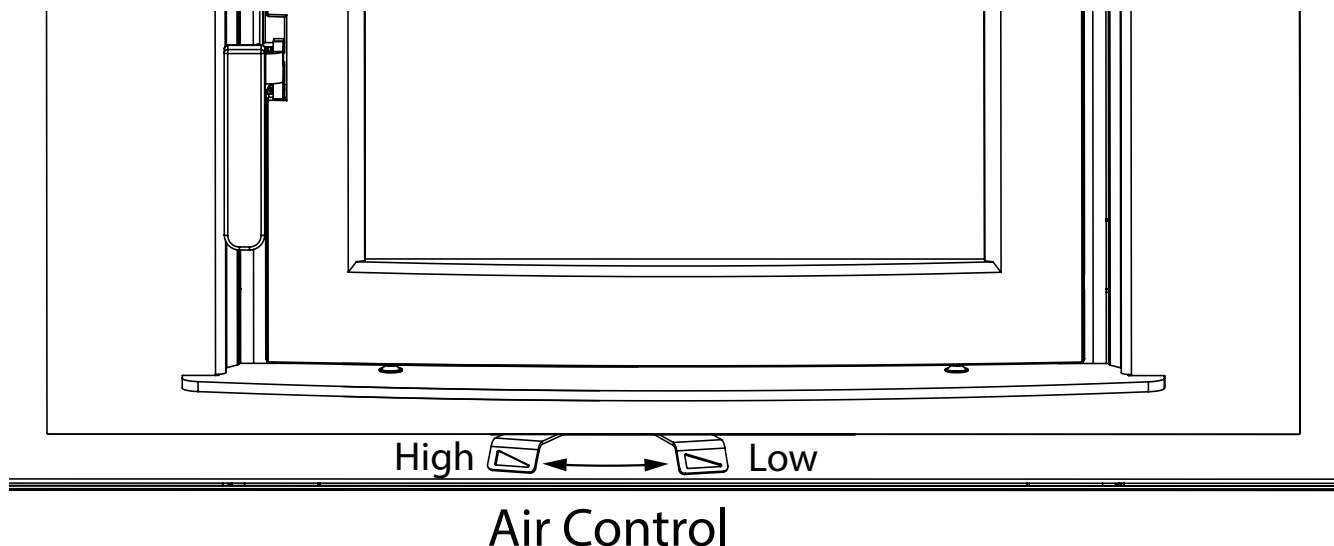

Figure 1: FP16 LE Air Control.
1. Adjust the Air Control, located under the Ash Shelf, all the way to the left to the “High” position.(Figure 1).
1. Set the heat output to a desired setting by moving the Air Control(Figure 1) between the High and Low stops. If smoke pours down across the glass (waterfall effect) this indicates you have shut the control down before the fire was fully established after loading or you are using too low a setting to quickly. The wide control range makes finding the desired setting for your application easy. Every home's heating needs vary due to insulation, drafts, climate, etc. The proper setting can only be found by trial and error and should be noted for future burns.
2. To refuel, adjust the Air Control(Figure 1) to the "High" position (all the way to the left), and give the fire time to brighten. Open the door slowly, this will prevent backpuffing or the flame rolling out of the door opening.